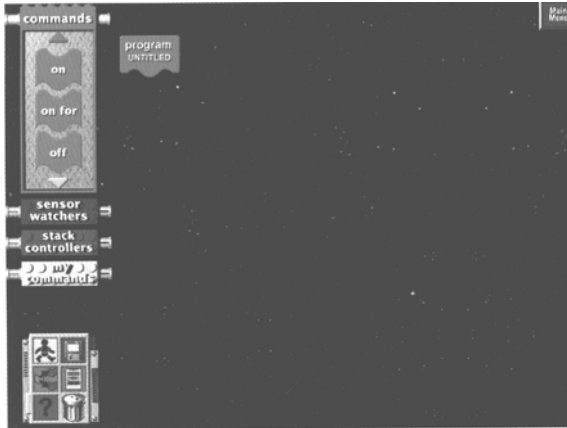

Figure 2. Screen shot of the RCX object-oriented programming window.
2. Find a computer and launch the MINDSTORMS software, enter the RCX programming area. Your instructor should provide a brief introduction to the object-oriented programming language or allow you time to investigate the tutorial and LEGO manual on the software. The way the behavior of your robot is made is to assemble pre-made 'blocks' of programming (Fig. 2) and download a finished product to the RCX (Fig. 3).